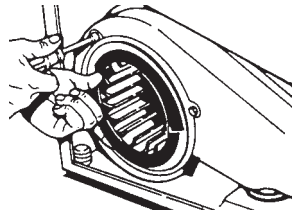

Fig. 4-17
2. Remove two (2) screws from lint duct and remove the lint duct.
3. Remove two (2) screws from blower housing cover and remove blower housing cover. (Fig. 4-17)